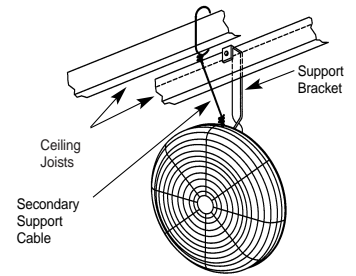

Figure 6 - Suspension Bracket
4. Wrap the other end of the cable around a secure building joist, beam, truss, or other support near the fan (Refer to Figures 6 and 7). Take up all excess slack in the cable. If the fan is an oscillating model, leave enough slack to allow free movement through range of motion.
5. Attach the two (2) remaining cable clamps as indicated in step 2. The excess tail should be trimmed to extend 1 to 2" past the second clamp.